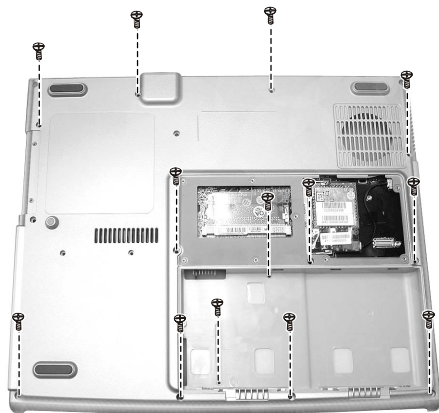

Figure 2-23 Remove the bottom
2. Remove thirteen screws on the bottom of the notebook. (Figure 2-23)